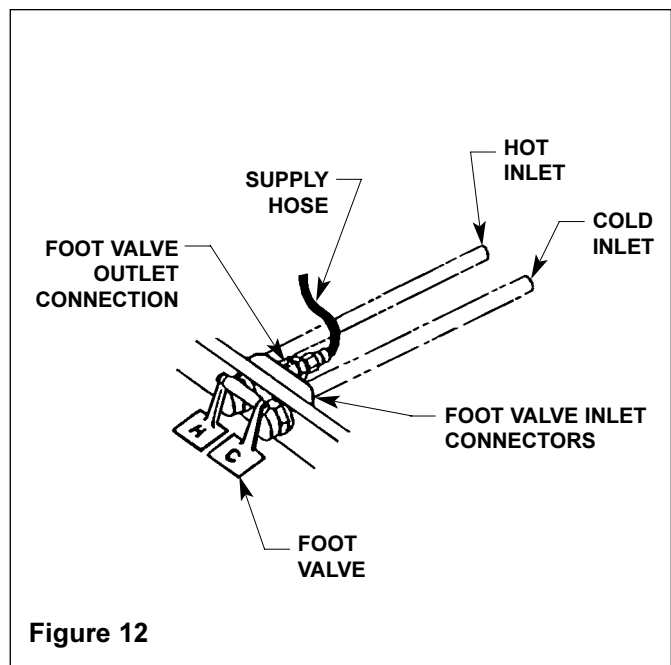

Figure 12
4. Connect the other end of the supply hose to the foot valve outlet connection (see Figure 12).
6. Connect the hot and cold water supply (piping supplied by installer) to the 1/2" NPT inlet connectors on the foot valve (see Figure 12).